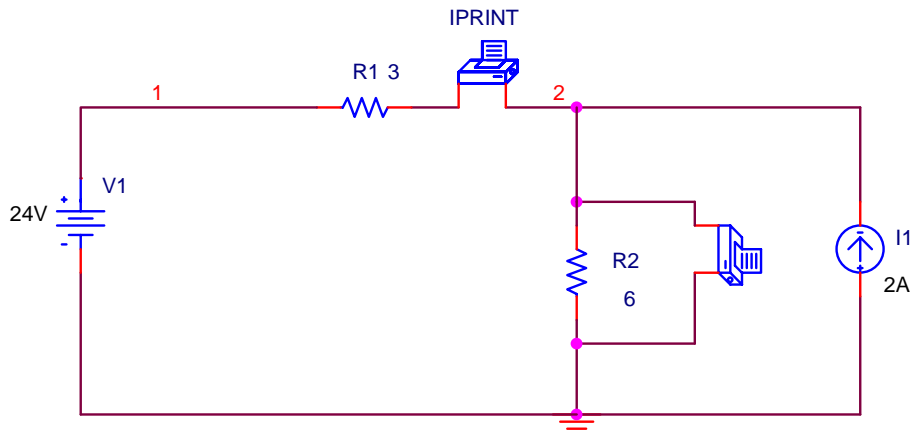

Figure 3.1 Circuit from Problem 1 with IPRINT and VPRINT2 added.
- 8) At this time the name of the sweep variable must be specified. In this case the voltage source is the sweep variable and from Figure 3.1 it can be seen that it is called V1. (It may be called something else on your schematic like V2). Type in the name V1 where it asked for the variable to sweep. Choose sweep type as “Linear”, start value of “0”, end value of “100”, and increment to be “10”. Then click “Ok”.
- 9) Since, in this example, the output across the 6-ohm resistor is desired, it is a good idea to name the nodes. The ground node should be 0 by default – if it is not 0, it can be made so by following the procedure here while in sub-step (i) the word “ground” should be substituted for the word “wire”. To name any other node proceed as follows: (i) select the wire segment associated with the node to be named; (ii) click on “Place” on the top toolbar; (iii) select “Net Alias” and (iv) enter a number (preferably) for the name of the node. In Figure 3.1, a node has been named “1” while another is named “2”.
- 11) Once this is simulated you will notice a probe graph appears in the upper section of the simulation window. Select the Trace->Add Trace menu option to specify which variable to plot. In this example, the voltage across the 6-ohm resistor is desired and choosing V(2) from the scroll-down menu and clicking “Ok” gives a plot of the output voltage V(2) versus the source voltage V1. Instead of choosing an output variable from the scroll-down list, the same result could be accomplished by